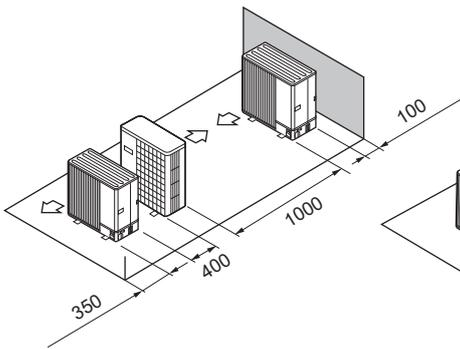

Fig. 1-16
- (5) Single parallel unit arrangement (Fig. 1-16)